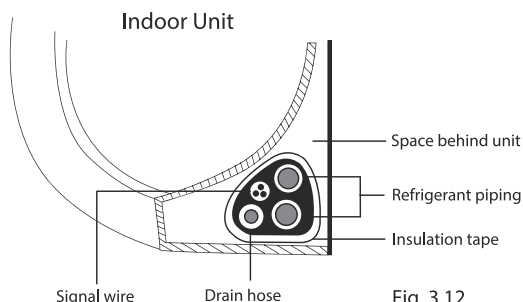

Fig. 3.12
- Bundle the drain hose, refrigerant pipes, and signal cable according to Fig. 3.12 .
- Using insulation tape, wrap the signal wire, refrigerant pipes, and drain hose tightly together. Double-check that all items are bundled in accordance with Fig. 3.12 .